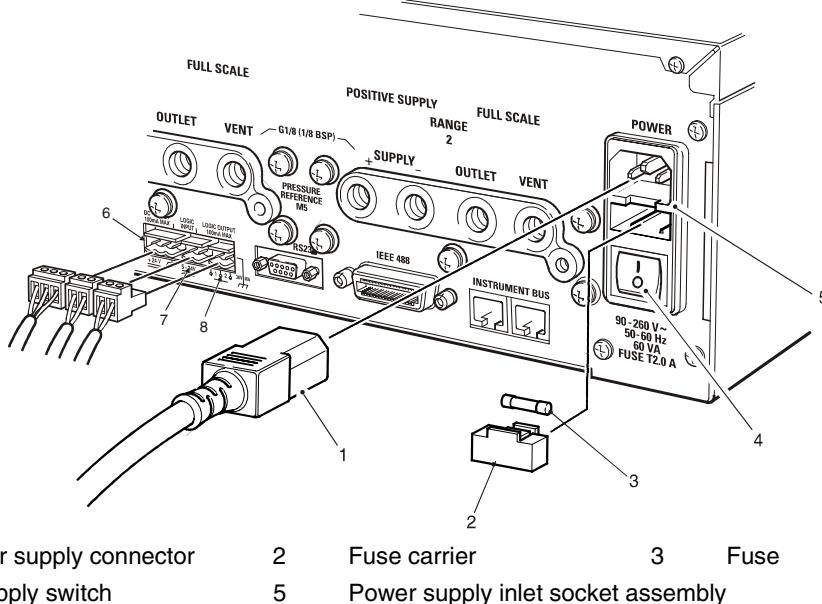

Figure 4-1, Power Supply Fuse Replacement
4.6 Fuse Replacement (Fig 4-1)